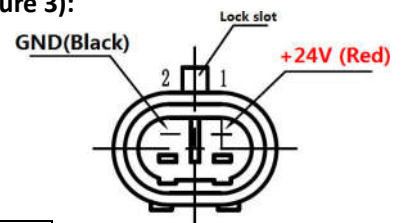

figure 3
**Connector model and the corresponding electrical properties (see figure 3):**